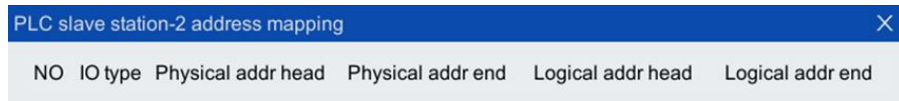

Figure2-14 View IO address mapping
Step4. Click "IO Address Mapping" to view the set IO type, physical address head, physical address end, logical address head and logical address end, as shown in Figure2-14.